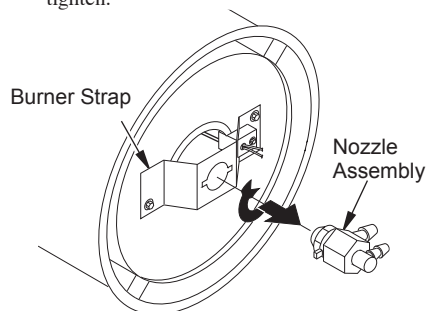

Figure 22 - Removing Nozzle Assembly, All Models
- Turn nozzle assembly 1/4 turn to left and pull toward motor to remove (see Figure 22).
- Attach nozzle assembly to burner strap (see Figure 22).